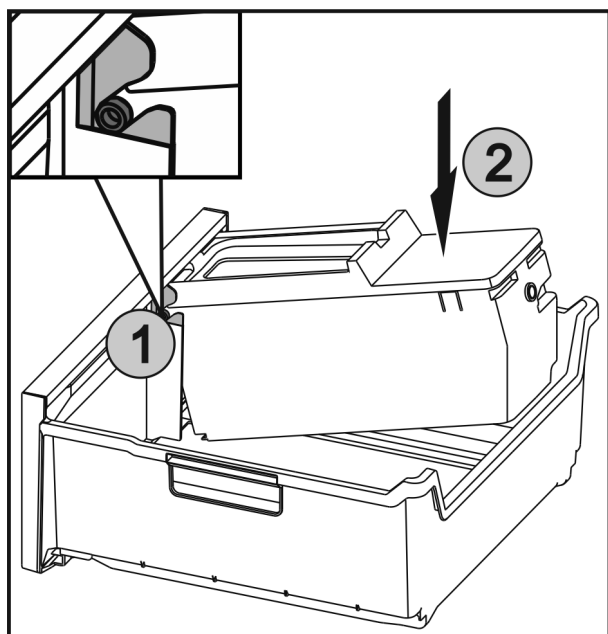

Fig. 42
- ▶ Push the axles Fig. 42 (1) on the EasyTwist-Ice into the guides and push the rear side Fig. 42 (2) until the lugs engage.